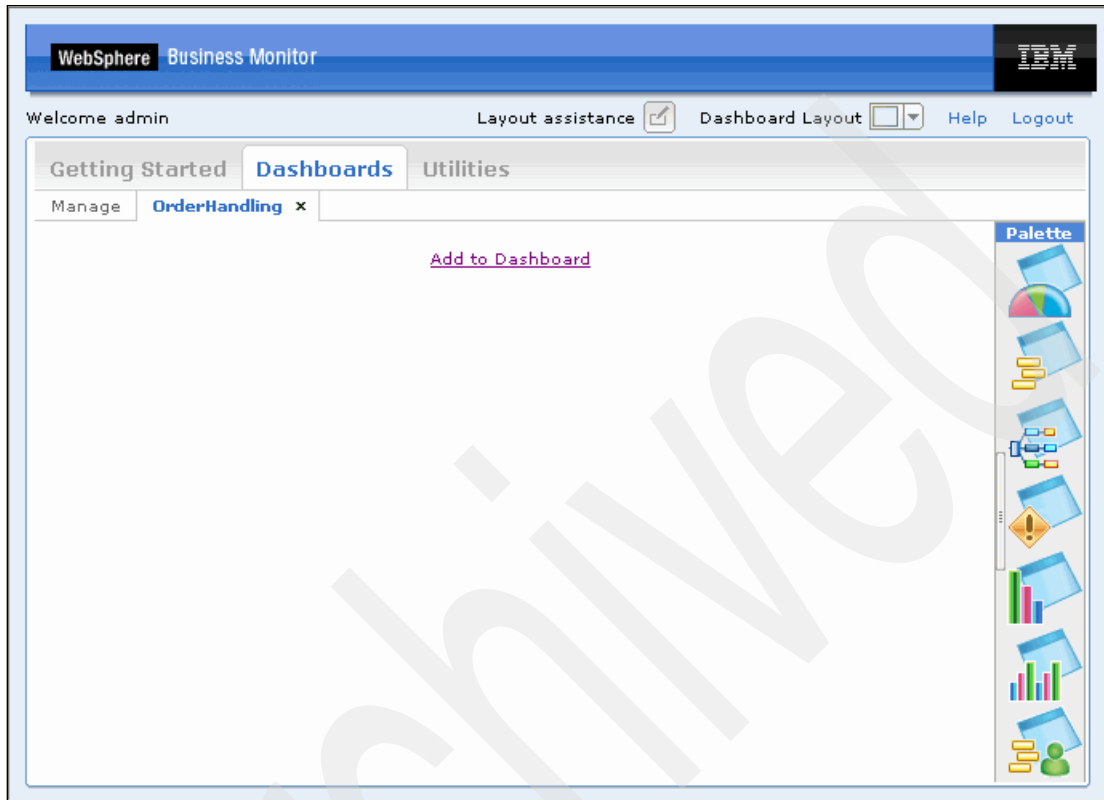

Figure 8-149 OrderHandling page
5. On the OrderHandling page (Figure 8-149), click **Add to Dashboard** to add views.